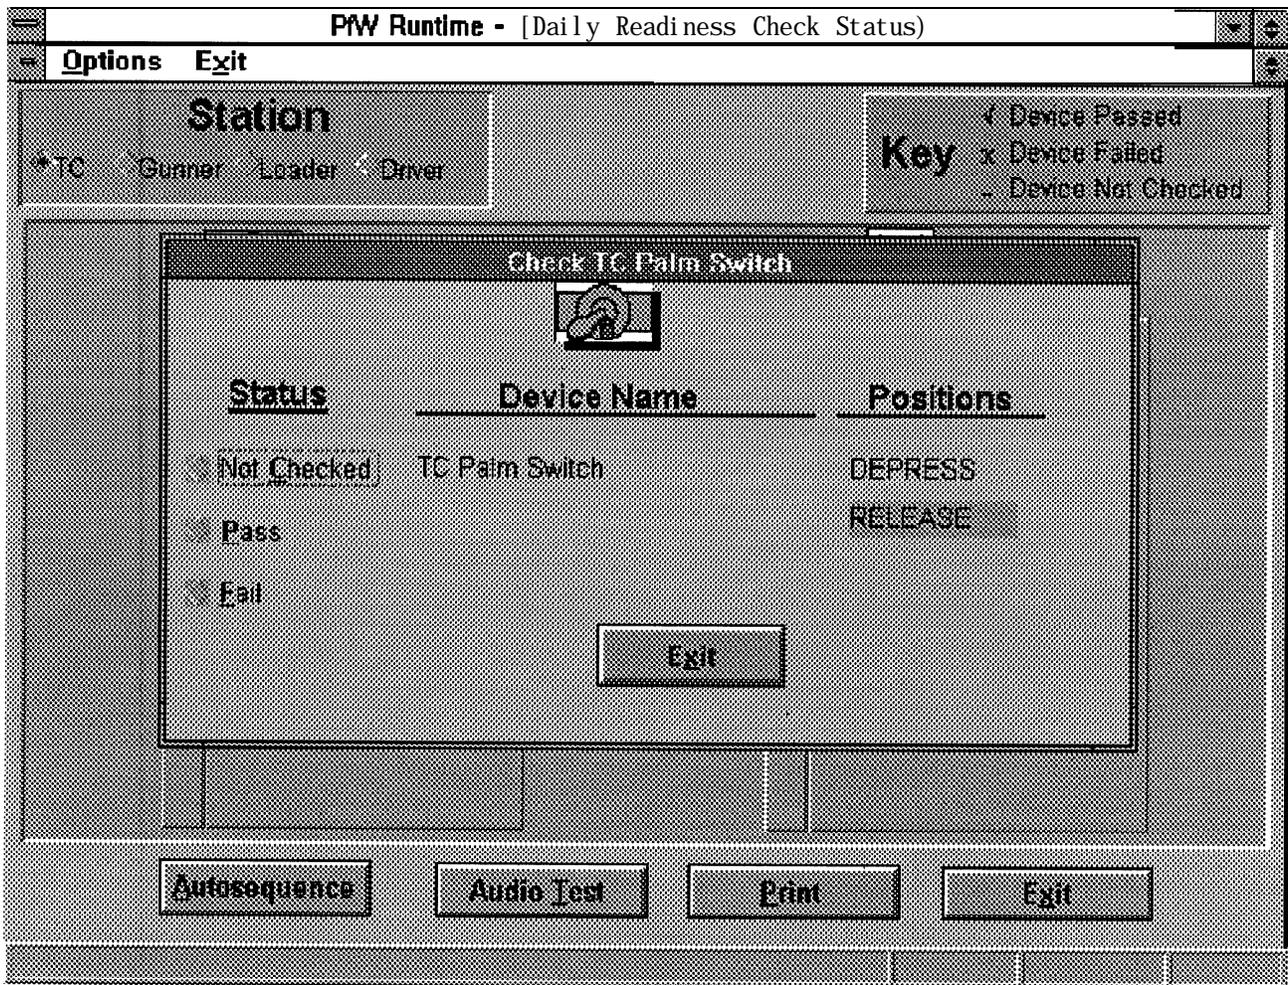

Figure 2-94. Check TC Palm Switch Screen
2.6.6.2 Conducting DRC on a Switch. For each switch selected with the procedures in 2.6.6.1, AFIST displays a DRC screen, like the one shown in Figure 2-94, one at a time. At each screen, perform the DRC of that device as follows: